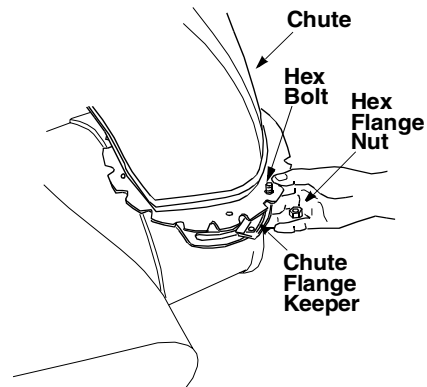

Figure 4
- Place the chute flange keeper (flat side down) beneath lip of chute assembly as shown in Figure 4. You will find the chute flange keepers in group E of the hardware pack.
- Insert hex bolt (1/4-20 x .75") and flange nut from group E up through chute flange keeper and chute assembly as shown in Figure 4. Do not tighten at this time. Rotate chute to install all flange keepers.